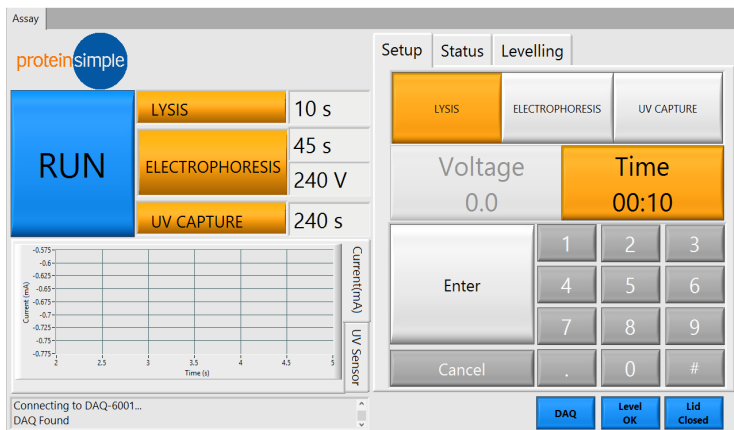

Figure 5-9: To set the lysis time, press the **Lysis** button above the number pad, enter the desired length of time in seconds, then press **Enter**.
- 5 Enter the desired lysis (Figure 5-9) and electrophoresis (Figure 5-10) parameters using Milo's touchscreen. Recommended initial values are given in Table 5-1. Enter the times in MM:SS format on the right side of the software interface. Values on the left side of the software interface will be used in the assay run.